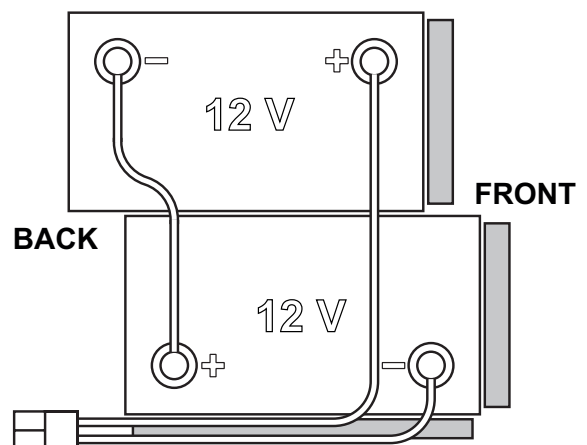

Figure 1
The machine requires 2 12 V batteries, connected according to the diagram shown in Figure 1.
1. Remove the operator key (41).
2. Disconnect the battery connector (9).
3. Lift the cover (34) and check that the recovery tank (33) is empty; if not, empty it using the drain hose (12).
4. Close the cover (34).
5. Grasp the handle (16) and carefully lift the tank (33).
7. Route and install the battery cable as shown in Figure 1, then carefully tighten the nut on each battery terminal.
8. Connect the battery connector (9).
9. Grasp the handle (16) and carefully lower the tank (33).